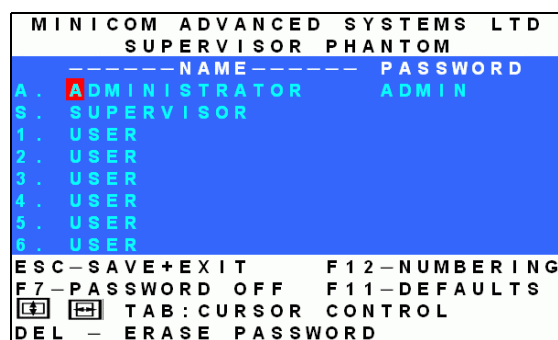

Figure 3-2 The Password window
3. Press **Enter**. The Password window appears. See Figure 3-2.